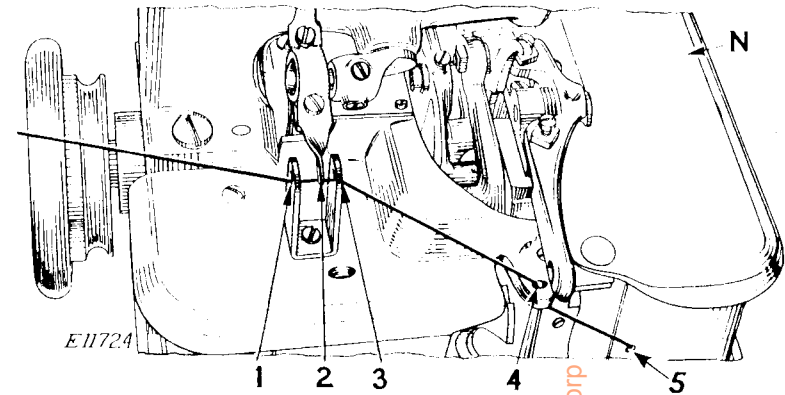
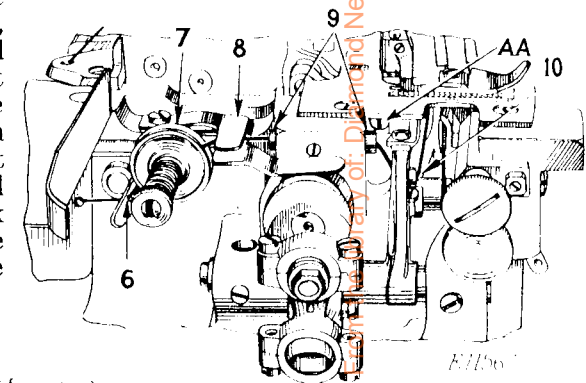
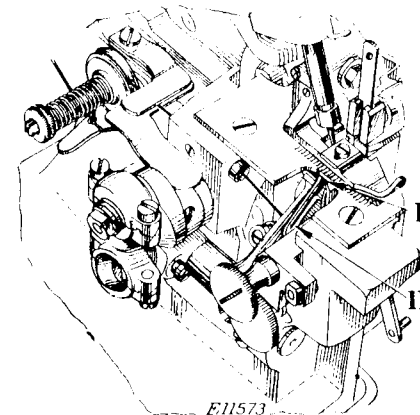

FIG. 8
FIG. 9
FIG. 10
(SEE FIGS. 8, 9 AND 10)
Pass the thread from the unwinder down through the hole (1, Fig. 8) in the bracket at the rear of the machine, through the hole (2, Fig. 8) in the pull-off, through the hole (3, Fig. 8), down through the hole (4, Fig. 8) in the frame top cover, from back to front through the hole (5, Fig. 8) in the cloth plate extension. Swing cloth plate (N, Fig. 8) to the left. Then pass the thread up through the hole in the extension (6, Fig. 9), over between the tension discs (7, Fig. 9), from back to front under the nipper spring (8, Fig. 9) and through the tube (9, Fig. 9), down
and from back to front through the thread guide (10, Fig. 9), up and from back to front through the hole (11, Fig. 10) in the heel of the left hand looper, and from front to back through the eye (12, Fig. 10) of the left hand looper.
**Note:** The pull-off and bracket (1, 2 and 3, Fig. 8) and the nipper (8, Fig. 9) are **only threaded when making the three-thread tight stitch.**
This feed dog can be raised or lowered after loosening screw (AA, Fig. 9). After making the adjustment, securely tighten this screw.